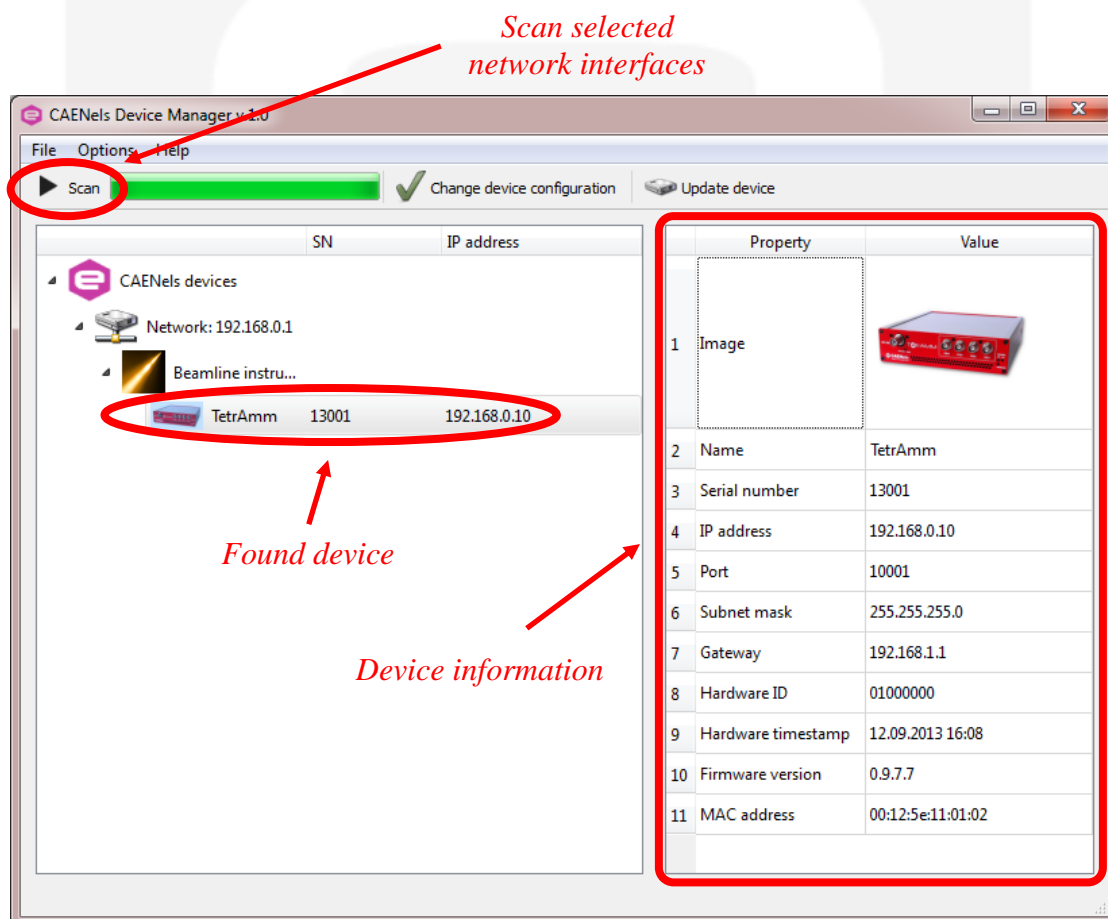

Figure 5: Main interface
- perform a scan to discover the connected PreDAC devices by clicking the “Scan” button as indicated in **Figure 5**. If there are multiple available networks it is possible to select the network/networks to be scanned in the “Selected network interfaces” window available under the “Options” menu. All the information about the selected devices is shown in the right side of the main window.